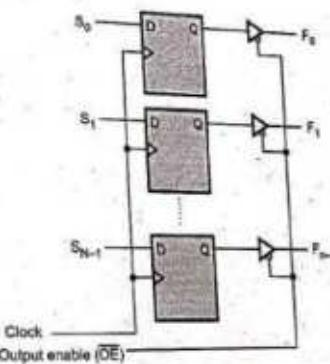

Fig. 7.13.4 PLA with flip-flop at the output
- To satisfy both the needs some PLAs are provided with flip-flop at each output, as shown in the Fig. 7.13.4.